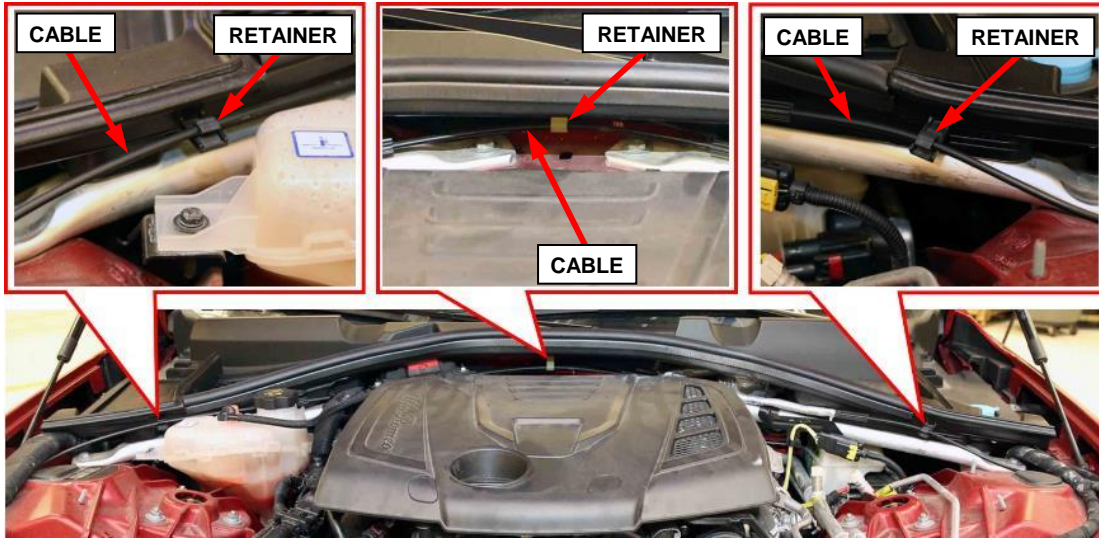

Figure 5 – Hood Opening Cable
7. Release the hood opening cable from the retainers on each side of the cowl trim and from the center retainer (Figure 5).
15. Install the hood opening cable to the retainers on each side of the cowl trim and to the center retainer (Figure 5).